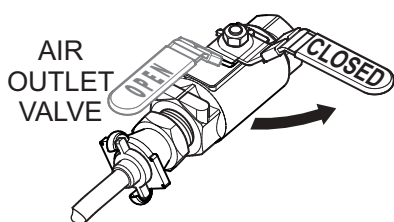

Figure 43. Air Outlet Valve (CLOSED)
1. Place the selected air outlet valve (Figure 43) in the **CLOSED** position to stop the flow of compressed air to the load.